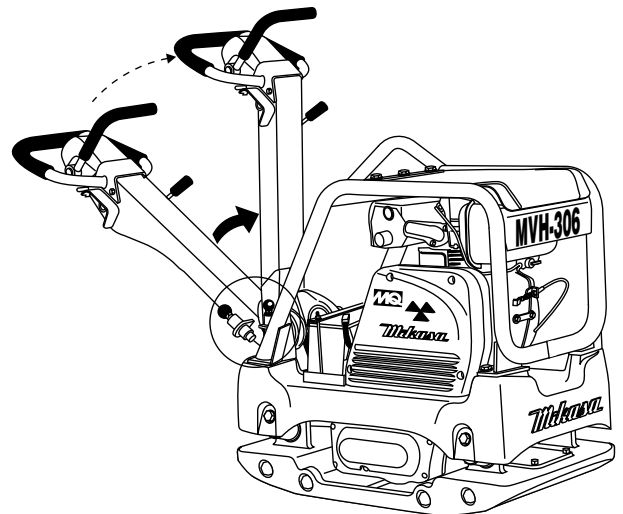

Figure 23. Stowing The Handle
1. Push up the handle upward (Figure 23) until the handle locks in place.